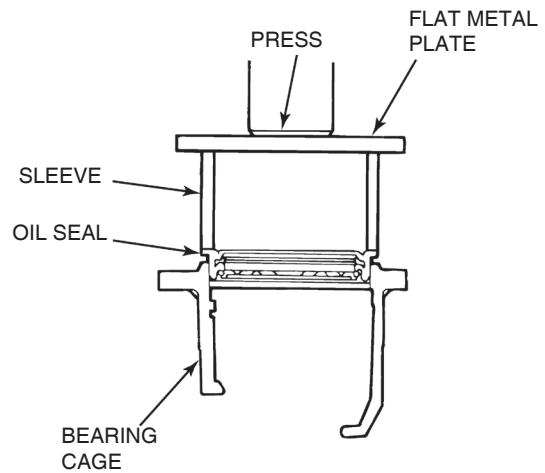

Figure 5.100
- C. Use a press and sleeve, or a mallet and sleeve, to install the seal into the cage. The seal is correctly installed when the metal flange of the seal seats on the top of the cage. Figure 5.100.